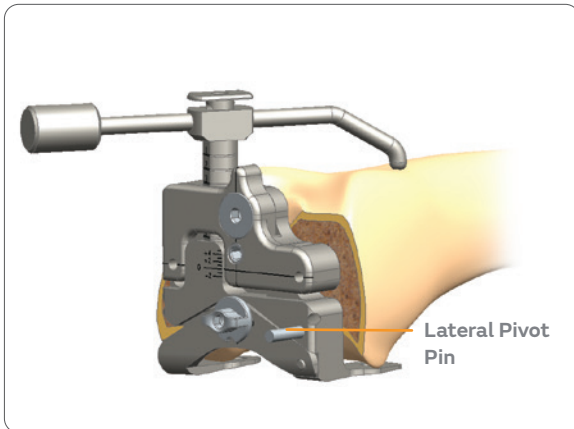

Figure 14
3. Position the femoral sizing guide flush against the distal femur, while ensuring the posterior paddles are contacting the underside of both posterior condyles. Once correct position of sizing guide is established, place a pin through lateral pivot pinhole located in the posterior/lateral corner on the face of the sizing guide (**Figure 14**).